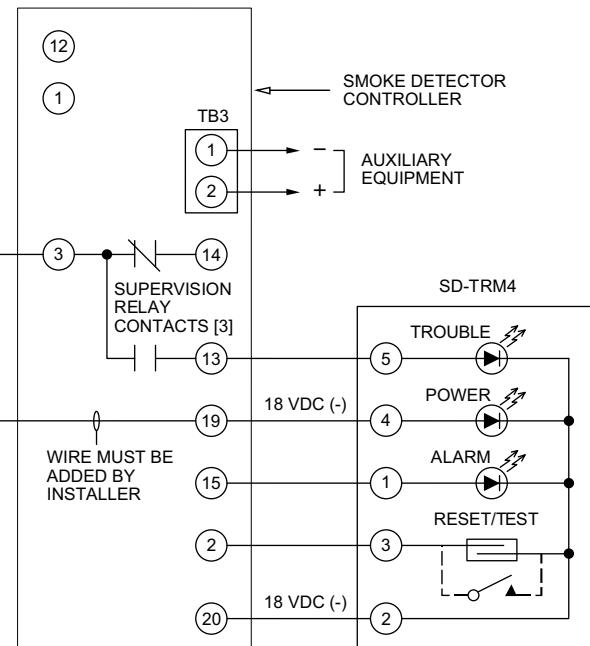

Fig. 43 — Remote Test/Reset Station Connections
The test/reset station dirty sensor test checks the test/reset station's ability to initiate a sensor dirty test and indicate the results. It must be wired to the controller as shown in Fig. 43 and configured to operate the controller's supervision relay. For more information, see "Dirty Sensor Test" on page 24.
- Verify that the remote test/station is wired as shown in Fig. 43. Repair or replace loose or missing wiring.